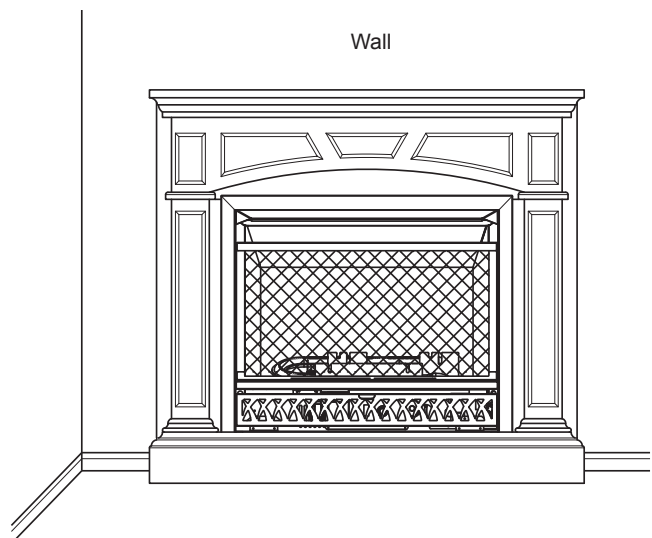

Figure 7
7. Position the fireplace to the desired location as shown in Figure 7.